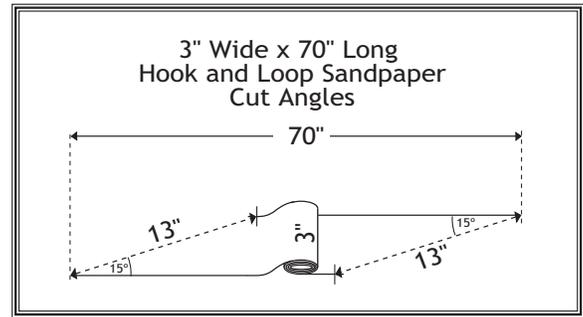
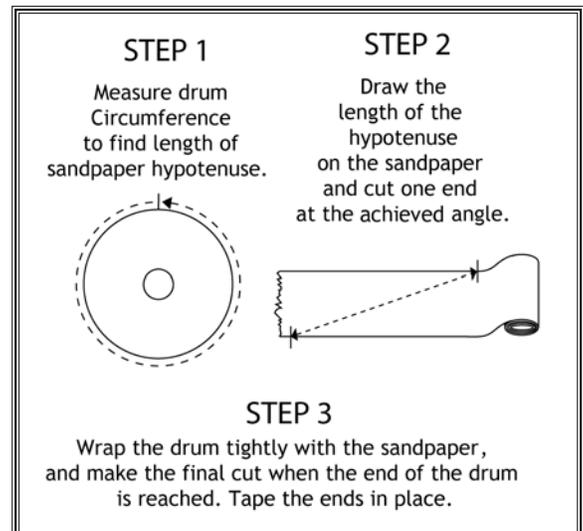

Figure 13. 3" wide x 70" long hook-and-loop sandpaper cut at a 15°.
Figure 14. Procedure for finding the angle of cut for wider or narrower sandpaper for any size sanding drum.
The Model W1740 is designed for 3" wide x 70" long hook-and-loop sandpaper cut at a 15° (see Figure 13). To use other widths of sandpaper, use the formula in Figure 14 to find the angle to cut the sandpaper.
4. Use the old sandpaper as a pattern to cut out the new sandpaper, or use the three steps in Figure 14, to cut a different width sandpaper.